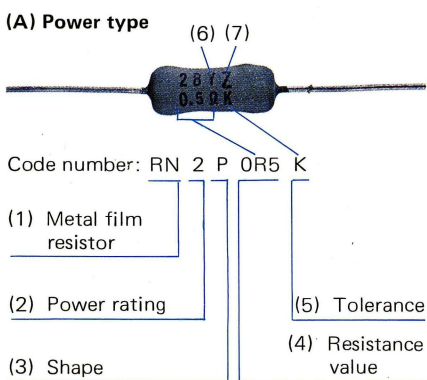
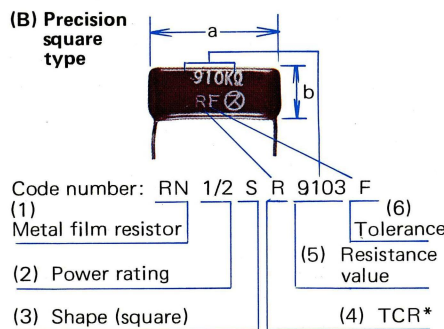
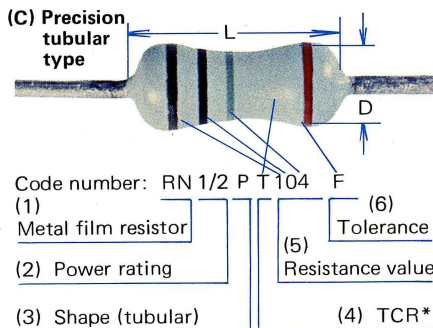

Fig. 7 Designation of power type metal film resistors
Fig. 8 Designation of precision square type metal film resistors
Fig. 9 Designation of precision tubular type metal film resistors
Metal film resistors (RN) include power type (Fig. 7) as well as precision square (Fig. 8) and precision tubular (Fig. 9) types. The designation for Power Type Metal Film Resistors (A) is the same as that of Wire Wound Resistors (RT). As for the designation of (B), which is precision square type, and (C), which is precision tubular type, please refer to the following: (1) Pioneer's coding for this type of resistors is RN. (2) The power rating for square type metal film resistors (B) depends on their length (refer to 'a' in Fig. 8), which is 1/4W for a 9mm RN resistor and 1/2W for a 17mm type. In the case of tubular type RN resistors (C), power rating is determined by size. That is, resistors having a maximum diameter (D) of 2.4mm and a length (L) of 5.8mm are 1/4W; those measuring 3.4mm (D) x 9.5mm (L) are 1/2W. (3) Represents shape. (B) is indicated with S, while (C) is indicated with P. (4) The temperature coefficient of resistance (TCR) is designated R for 1/4W and R and S for 1/2W precision square type metal film resistors (B) respectively. R stands for $\pm 100\text{PPM}/^\circ\text{C}^*$ and S for $\pm 150\text{PPM}/^\circ\text{C}$. (See Fig. 8). As for (C) type metal film resistors, no marking signifies T, of which the temperature coefficient is $\pm 200\text{PPM}/^\circ\text{C}$ and
marking stands for the coefficient R. [See (4) in Fig. 9].